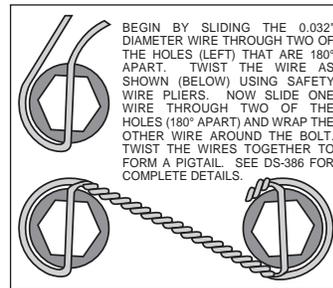
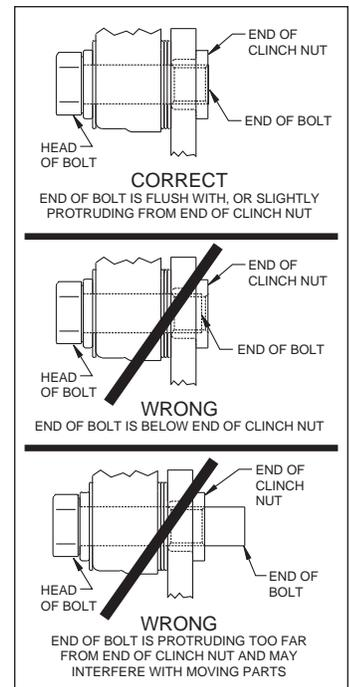

Figure 2. Safety Wire Diagram
Figure 3. Clinch Nut Engagement Diagram
Assembly Instructions (numbers in parenthesis refer to the parts list and Figure 1 on the preceding pages): **CAUTION:** *All mounting bolts must fully engage clinch nuts.* Be sure to check that all bolts are either flush or protruding through flanged side of clinch nut after shimming, Figure 3.
• Safety wire bolts using standard 0.032 inch diameter stainless steel safety wire as shown in Figure 2. Please refer to Wilwood's data sheet DS-386 (available at www.wilwood.com/Pdf/DataSheets/ds386.pdf) for complete safety wire installation instructions.
engagement, as shown in Figure 3. Once the caliper alignment and clinch nut engagement are correct, remove the bolts one at a time, apply red *Loctite*® 271 to the threads, and torque to 40 ft-lb. Safety wire bolts using standard 0.032 inch diameter stainless steel safety wire as shown in Figure 2. Please refer to Wilwood's data sheet DS-386 (available at www.wilwood.com/Pdf/DataSheets/ds386.pdf) for complete safety wire installation instructions.